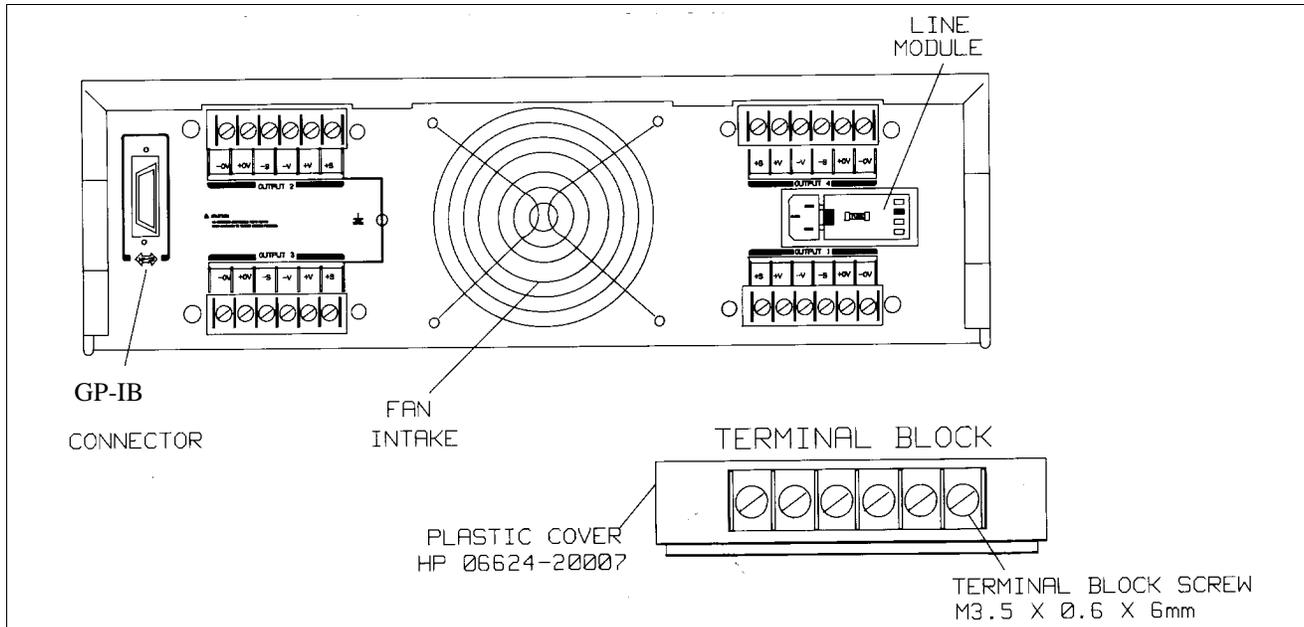

Figure 2-2. Rear Panel Detail (6624A Shown)
You can operate this power supply from a nominal 100 V, 120 V, 220 V or 240 V single phase power source at 47 to 66 Hz. The input voltage range, maximum input current, high line inrush current (PK), and the fuse required for each of the nominal inputs are listed in Table 2-1. You can check the line voltage setting of your supply by examining the door on the line module. This is located on the rear panel of your supply as shown in Figure 2-2.
The GP-IB connector on the rear panel connects your power supply to your computer and other GP-IB devices (see Figure 2-2). Chapter 1, page 12 lists the cables and cable accessories that are available from Agilent Technologies. An GP-IB system can be connected together in any configuration (star, linear, or both) as long as the following rules are observed: